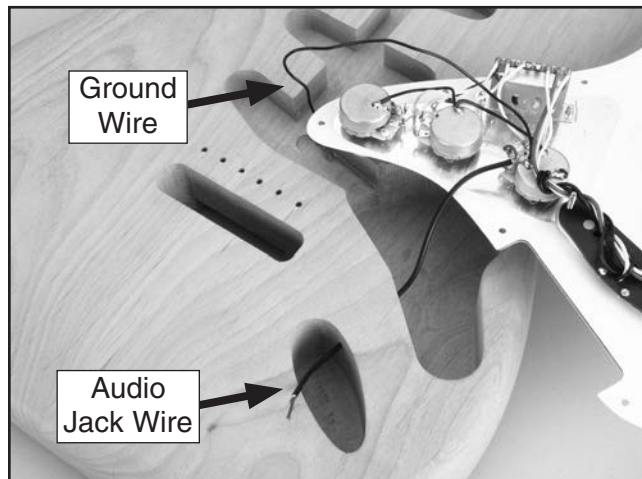

Figure 15. Audio jack wire.
- Push the thicker black audio jack wire through the hole shown in **Figure 15**.